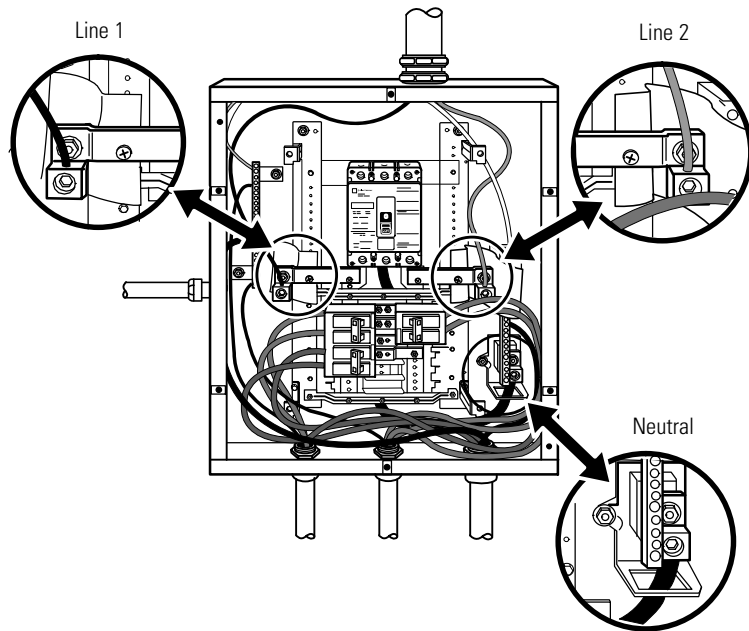

Figure 12. Load Connections
15. Hardwire the load to the parallel tie cabinet (see Figure 12).